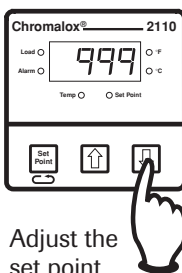

Figure 4.7
- Press the \uparrow or \downarrow buttons to adjust the value (only the value is displayed during adjustment). See Figure 4.7. The new value is set when the \uparrow or \downarrow button is released.